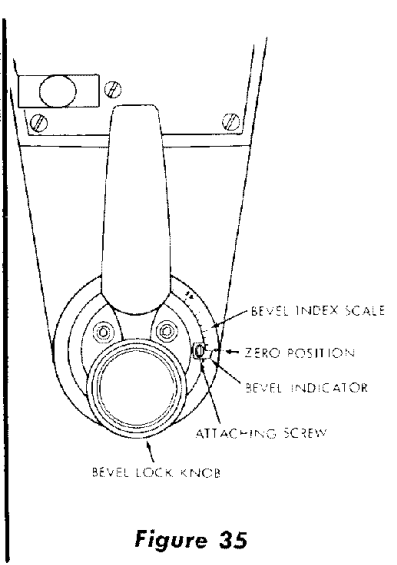

Figure 35
- a. The bevel indicator (figure 35) should read 0° on the bevel index scale.